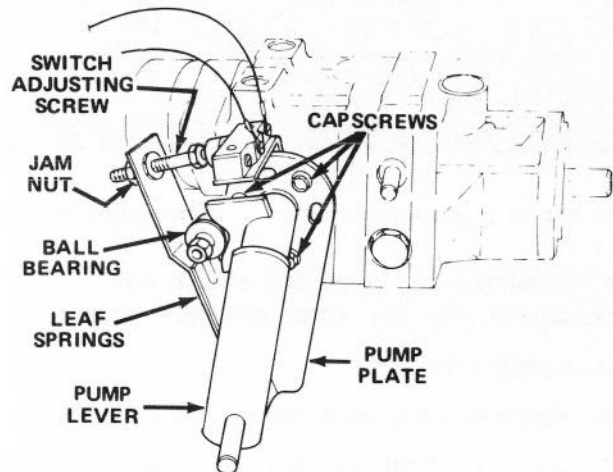

Figure 55
1. Park vehicle on a level surface and turn engine off. Apply the parking brake, tip seat forward, and actuate pump lever (Fig. 55) to insure assembly is properly seated and operating freely. Correct any discrepancy.
6. Because the wheel is rotating, the pump plate must be adjusted. But before adjusting the pump plate, move throttle to SLOW. If wheel is rotating forward, loosen capscrews, and lightly tap bottom of pump plate counterclockwise (Fig. 55). By contrast, tap pump plate clockwise if wheel is rotating backward (Fig. 55). When wheel stops rotating, tighten capscrews holding pump plate against side of transmission. Verify the adjustment with throttle in SLOW and FAST position.
- A. Ball bearing is loose or worn out (Fig. 55).
F. Weak or damaged leaf springs (Fig. 55). Replace.
2. Actuate the pump lever (Fig. 55) to insure all parts are operating freely and seated properly.
3. Loosen jam nut. Rotate switch adjusting screw (Fig. 55) until there is a gap between head of screw and switch button.